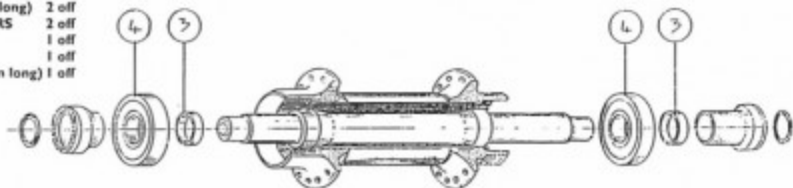
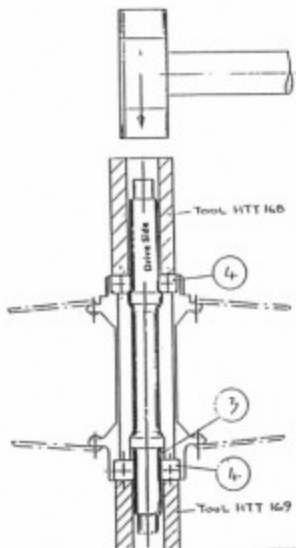

Fig 2. Shows hub built to suit 8 speed freewheel
FIG 4
4. Support wheel or hub on bush tool no. HTT169 non drive side down and re-load spindle non drive side back into hub. Ensure 5mm spacer does not drop off spindle. See fig 4. Slide bearing and bush tool no. HTT169 over spindle end and tap bearing until fully seated. Re-fit spacer item2 to non drive side and re-fit spacers items 3 and 7 to drive side. See Fig. 2.